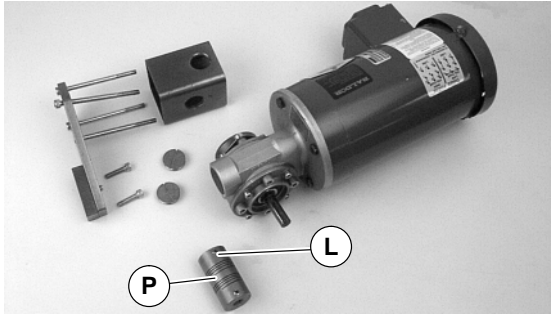

Figure 13
5. Loosen two (2) set screws (L) and detach coupling (P of Figure 13) from gear reducer.
13. Attach coupling (P of Figure 13) to gear reducer shaft. Tighten two set screws (L) to 32 in-lb (4.7 Nm).